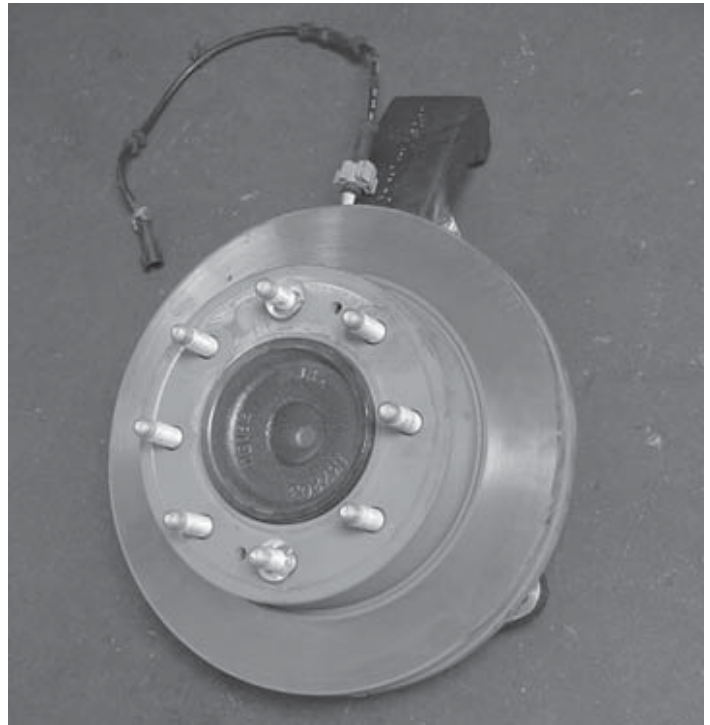

Fig. 15
7. Remove the existing splash shield, ABS wires, hub and bearing assembly from front spindle. Reinstall the splash shield and hub and bearing assembly to new front spindle (201001Dvr) and (201002Pass). **Fig. 15**